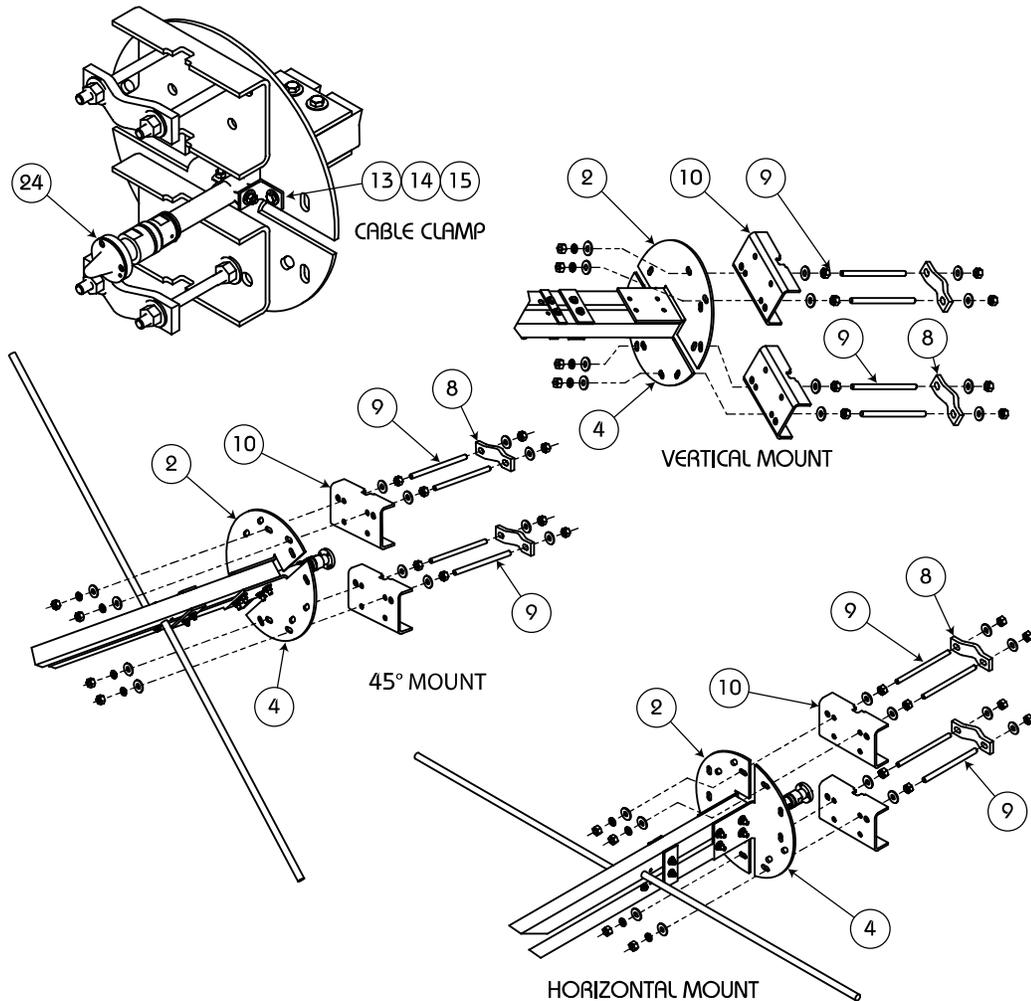

Figure 3. Attach the cable clamp and antenna mounts [step c(3) - (5)]
- Using the 1/4-20 hardware (14), attach the cable damp clip (13) to the top mount plate half. Using the coax clamp (15), secure the cable section extending from the boom to the cable clamp clip, as shown in Figure 3.
- Using the 1/2" threaded rods (9), attach the mount channels (10) to the mounting plates, with the an-
antenna arms in either the vertical, horizontal, or an angled mounting position, as specified in your "Figure 2." Attach the clamp halves (8) loosely onto the threaded rods. Mount attachment is shown in Figure 3.